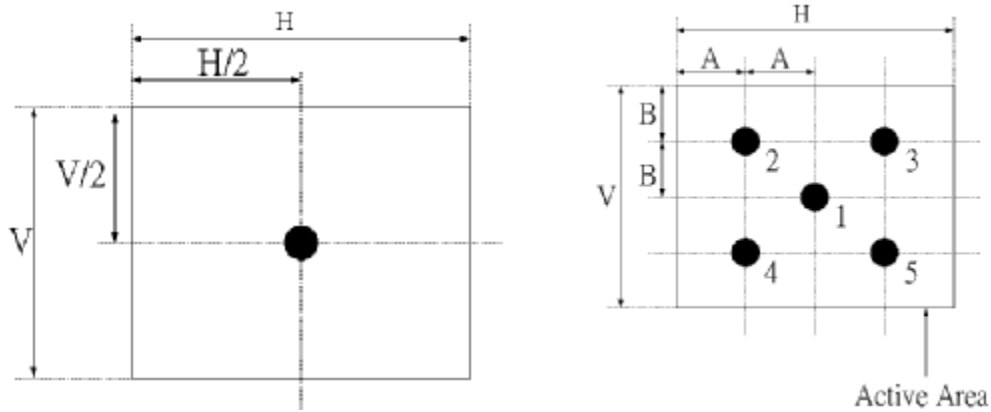

Fig.4-2 Optical measurement point
2. Surface luminance is luminance value at point 1 across the LCD surface 50cm from the surface with all pixels displaying white. From more information see FIG 4-2. When  $I_{BL} = 4.5\text{mA}$ ,  $L_{WH} = 450\text{cd/m}^2$  (typ.)  $L_{WH} = L_{on1}$ , Where  $L_{on1}$  is the luminance with all pixels displaying white at center 1 location.